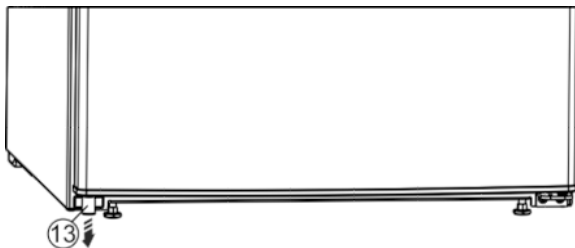

Fig. 4
- Remove the spacer Fig. 4 (13) from under the left-hand side of the door.